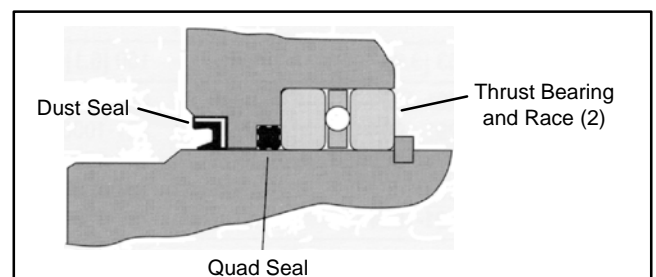

Figure 76
1. Install the quad seal (Fig. 76):
8. Put the thrust bearing and races into the housing. The thrust bearing goes between the two races (Fig. 76).